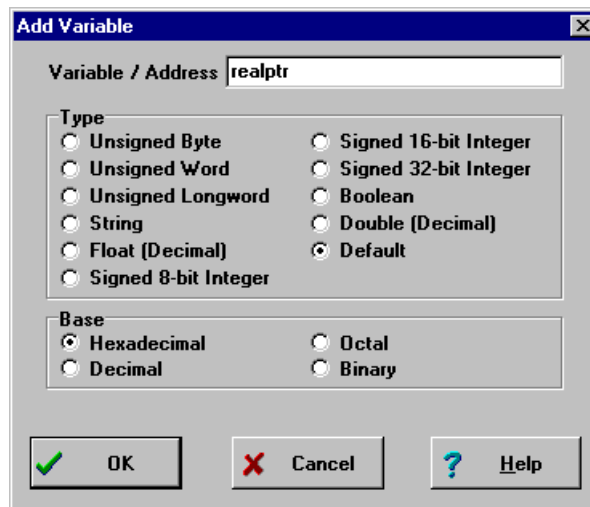

Figure 5-7. Add Variable Dialog Box
- **Add Variable** — Choose this option to open the *Add Variable* dialog box (see **Figure 5-7**) to add a variable or address to the current variable list. Select the variable type (size) and base.
Enter values for commands in the simulator as either numbers or labels (which you have defined in the map file or with the SYMBOL command). Specify the base in which variables are shown using the options in the *Add Variable* dialog box (**Figure 5-7**). The default number format for the ICS08 software is hexadecimal.